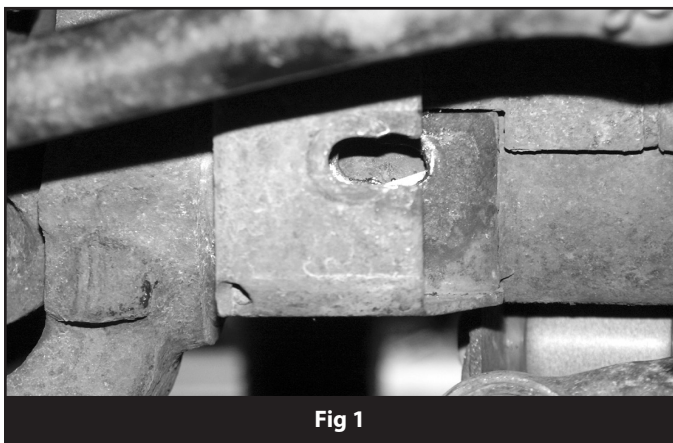

Fig 1
4. The outside OE track bar bracket hole needs to be slotted to accommodate the new bracket. Make marks from the top and bottom edge of the hole out to the edge of the bracket (perpendicular to the edge). Cut on the lines to slot the hole (Fig 1).
10. Drill a $\frac{9}{16}$ " hole at the mark made on the inside of the OE bracket (Fig 1).